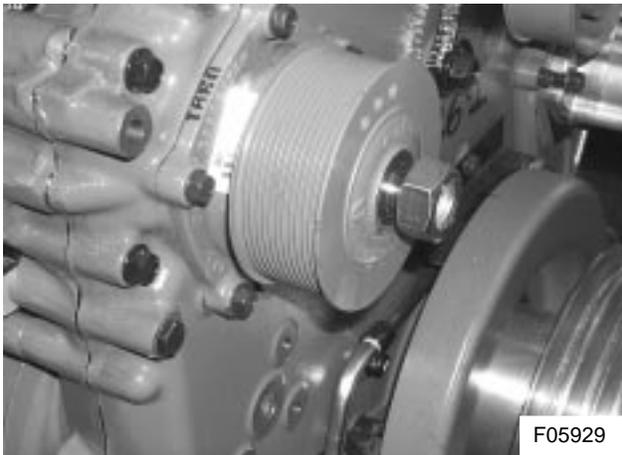

Figure 9: Running up nut VH 660204001
6) Run a new nut M24x3 VH 660204001 up the threaded part of the shaft (see Figure 9).